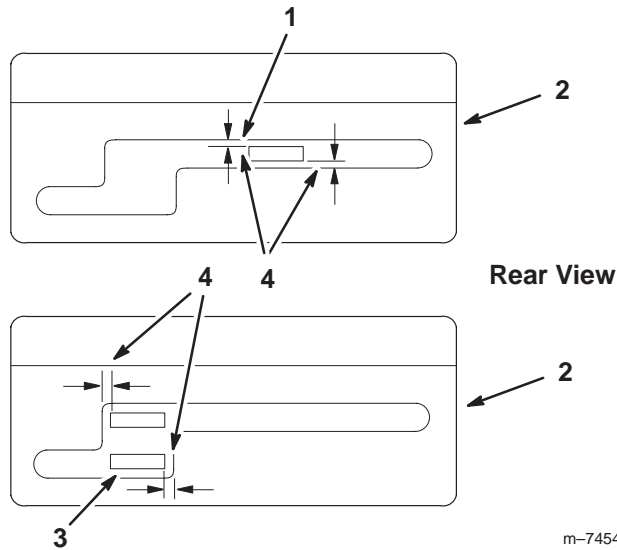

Figure 11
1. Shift lever to second gear and check alignment of lever in slot of shifter lever plate. The clearance between top and bottom of the shift lever should be equal (Fig. 11).
2. If clearance is not correct, remove lever and bend it slightly to adjust (Fig. 11).
3. Shift lever to neutral and check alignment of lever in slot of shifter lever plate. The clearance on the sides of shift lever should be equal (Fig. 11).